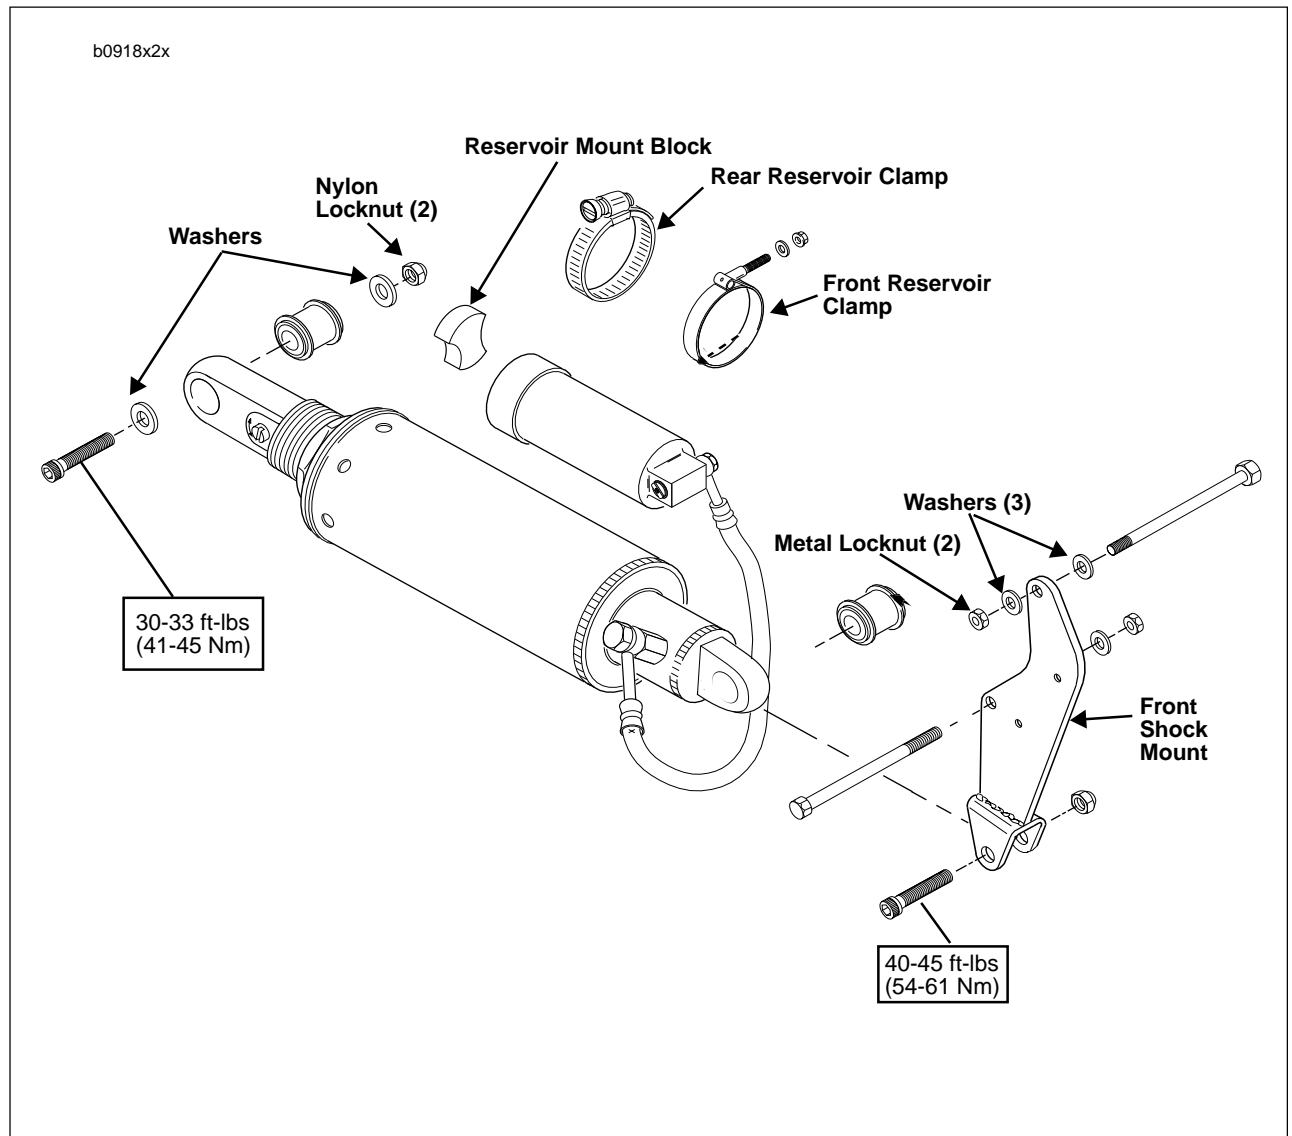

Figure 2-76. Rear Shock Absorber
See Figure 2-76. The rear suspension is controlled by the shock absorber. The shock allows adjustment of rear compression and rebound damping and spring preload.
1. See Figure 2-76. Place **new** bushings into mounting holes of shock absorber (if only replacing bushings).